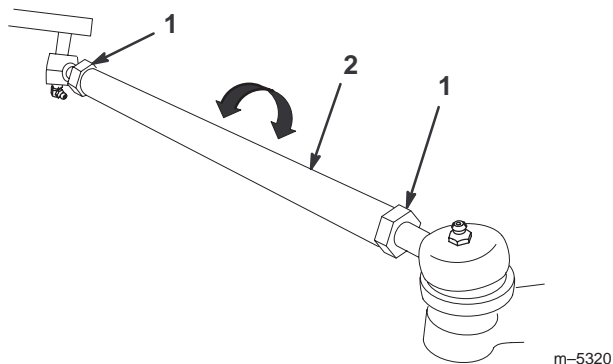

Figure 36
- If the measurement does not fall within the specified range (refer to the dimensions and parameters at the beginning of this procedure), loosen the jam nuts at both ends of the tie rods (Fig. 36).